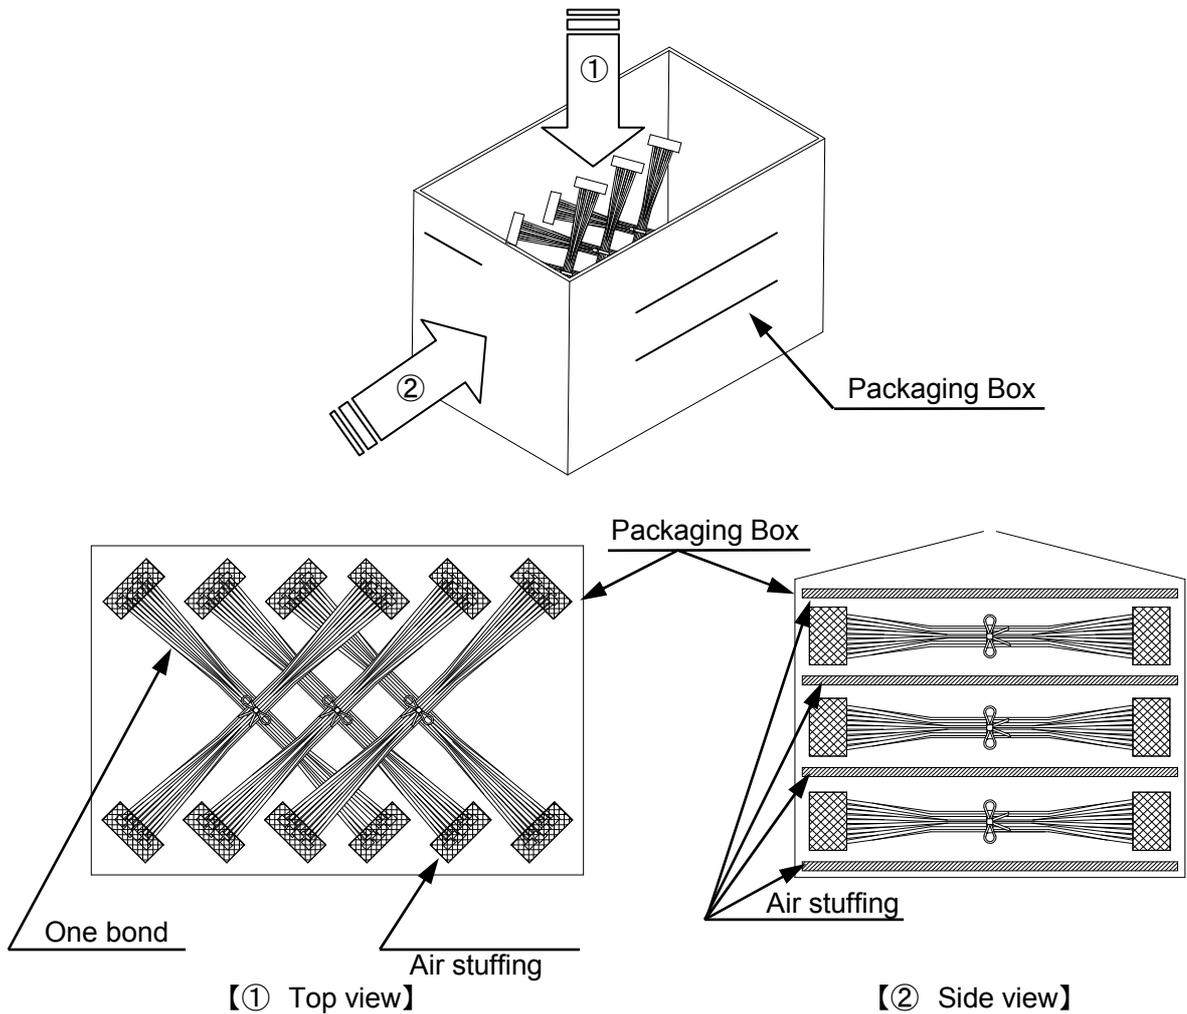

Fig.8 Packaging view
※Please pack the products alternately as described in the figure to prevent too much force on the connectors. (See Figure 8 ①)
※Please locate air stuffing in the very bottom and places where space can be found. (See Figure 8 ②)